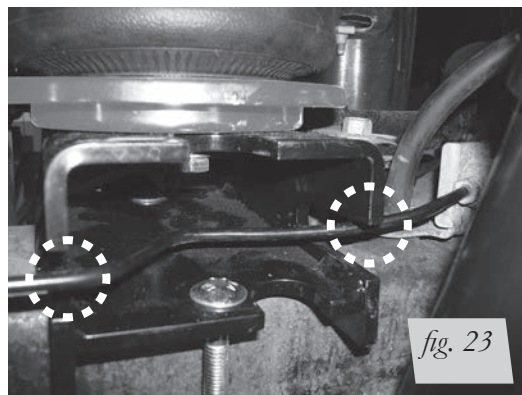

fig. 23
- The lower brackets have recesses in them to make clearance for the hard brake lines (figs. 23 and 24). If necessary, adjust the brake line so it is not rubbing on the lower bracket.